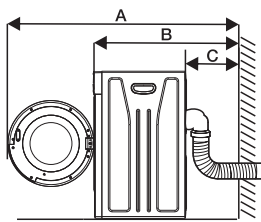

Fig1
- Ensure sufficient spacing is provided for the appliance to be installed. Leave space on back (15cm) to ensure proper ventilation. See figure 1.
- 3: First, loosen the plastic adjustment nut (see figure 1)